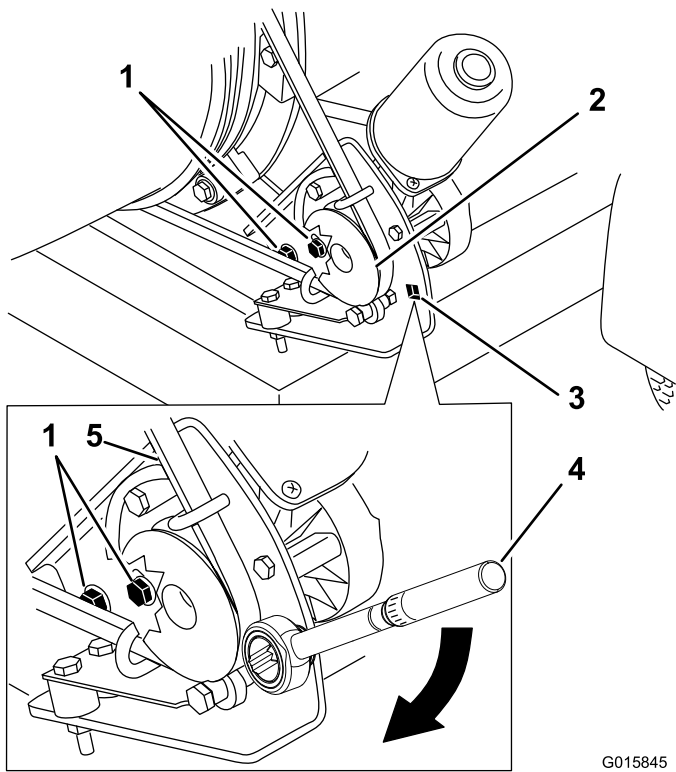

Figure 28
1. Loosen the bolts securing the pulley mounting bracket to the blower frame (Figure 28).